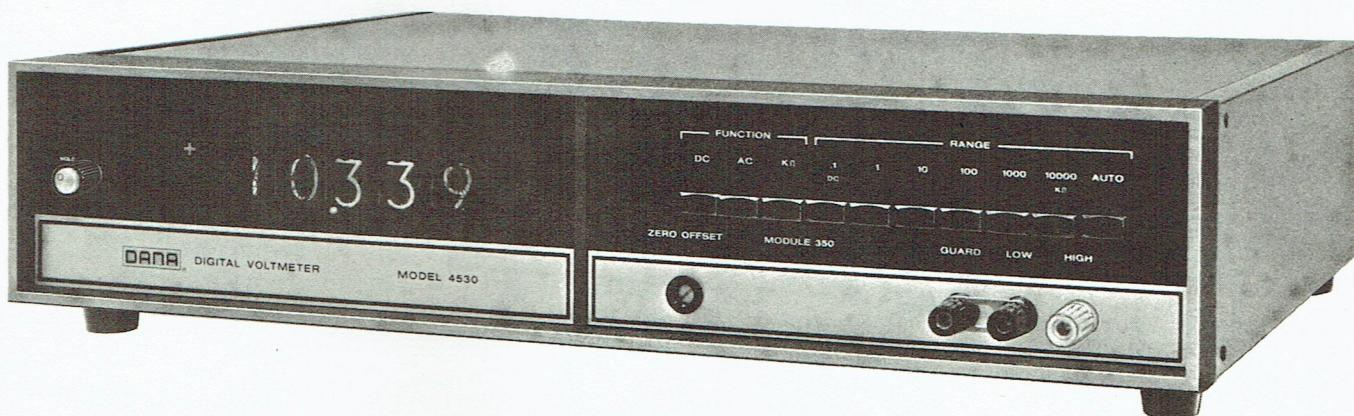

Figure 1.1 - Series 4500 Digital Multimeter
1.2 This manual describes the Dana Series 4500 Digital Multimeters (DMM). The basic models are the 4530 and the 4570 which differ only in their mechanical packaging. Model 4530 (see figure 1.1) is a thin-line instrument (3 1/2 inches high) designed for standard rack mounting while Model 4570 is primarily a bench type instrument. Descriptions in this manual apply to all models unless otherwise indicated.